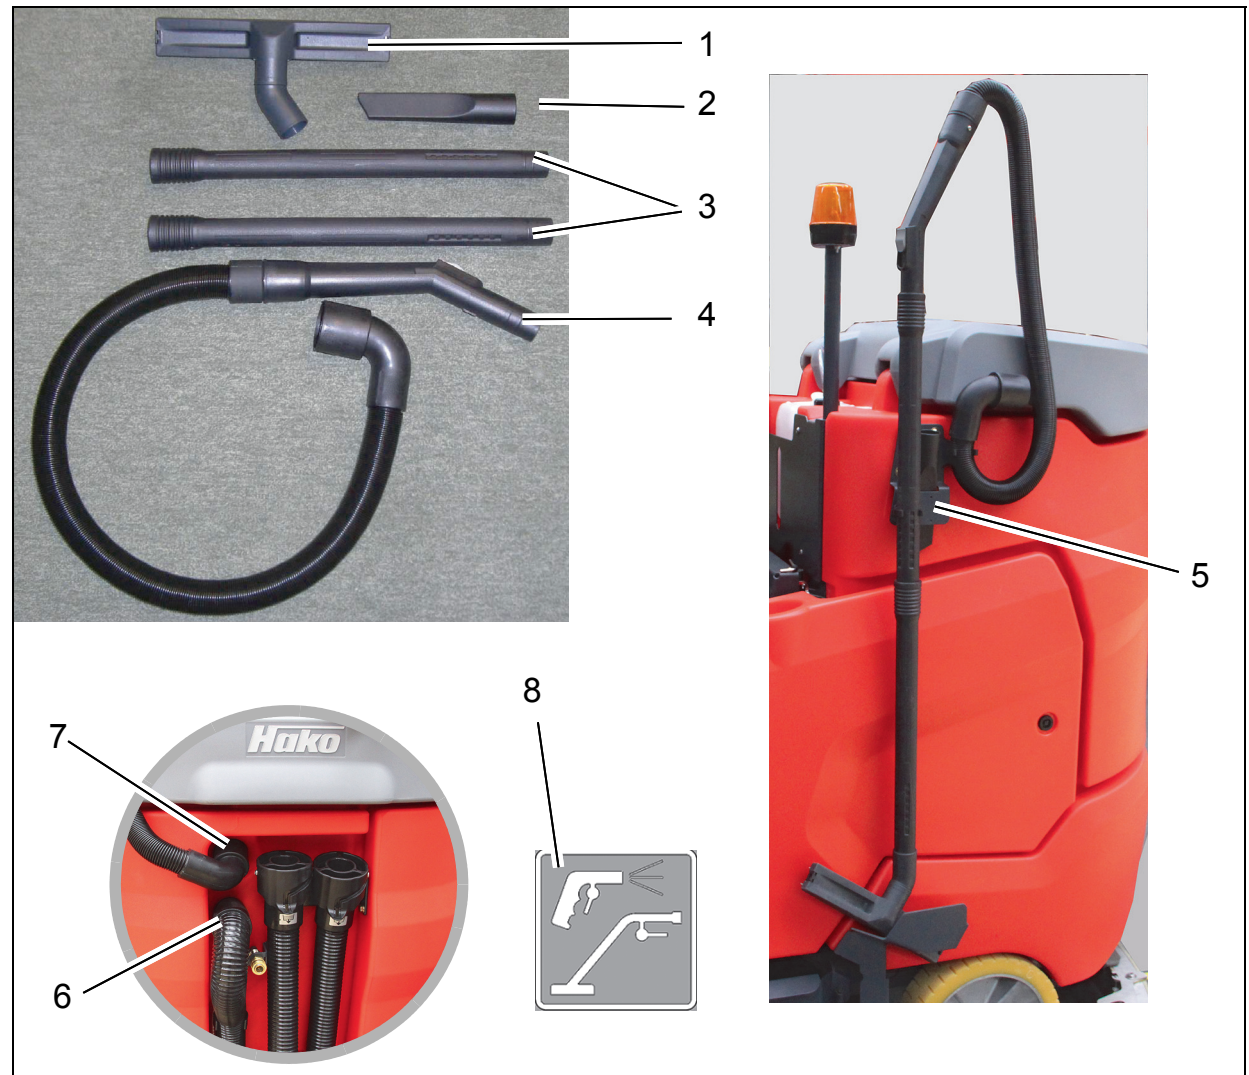

Fig. 1
1. Move suction hose of machine (Fig. 1/6) to park position.
2. Fit hose of tool into the opening of the vacuum system (Fig. 1/7).
- Use the *Tool Operation* button (Fig. 1/8) on the control panel to switch the tool on and off.